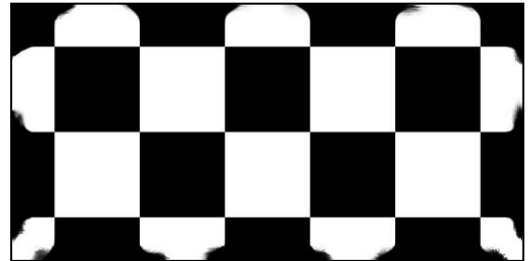

Fig. 1 Sample of the used checkerboard pattern to calibrate the camera
- The checkerboard must have an even number of squares along one side (e.g. X) and an odd number along the other side (Y) or vice versa.
- Based on testing, it is recommended to blur or smudge the border corners of the checkerboard that are attached to the edges of the board or otherwise an error might happen in the detection process. However, the provided patterns by us have this smudginess (Fig. 1).